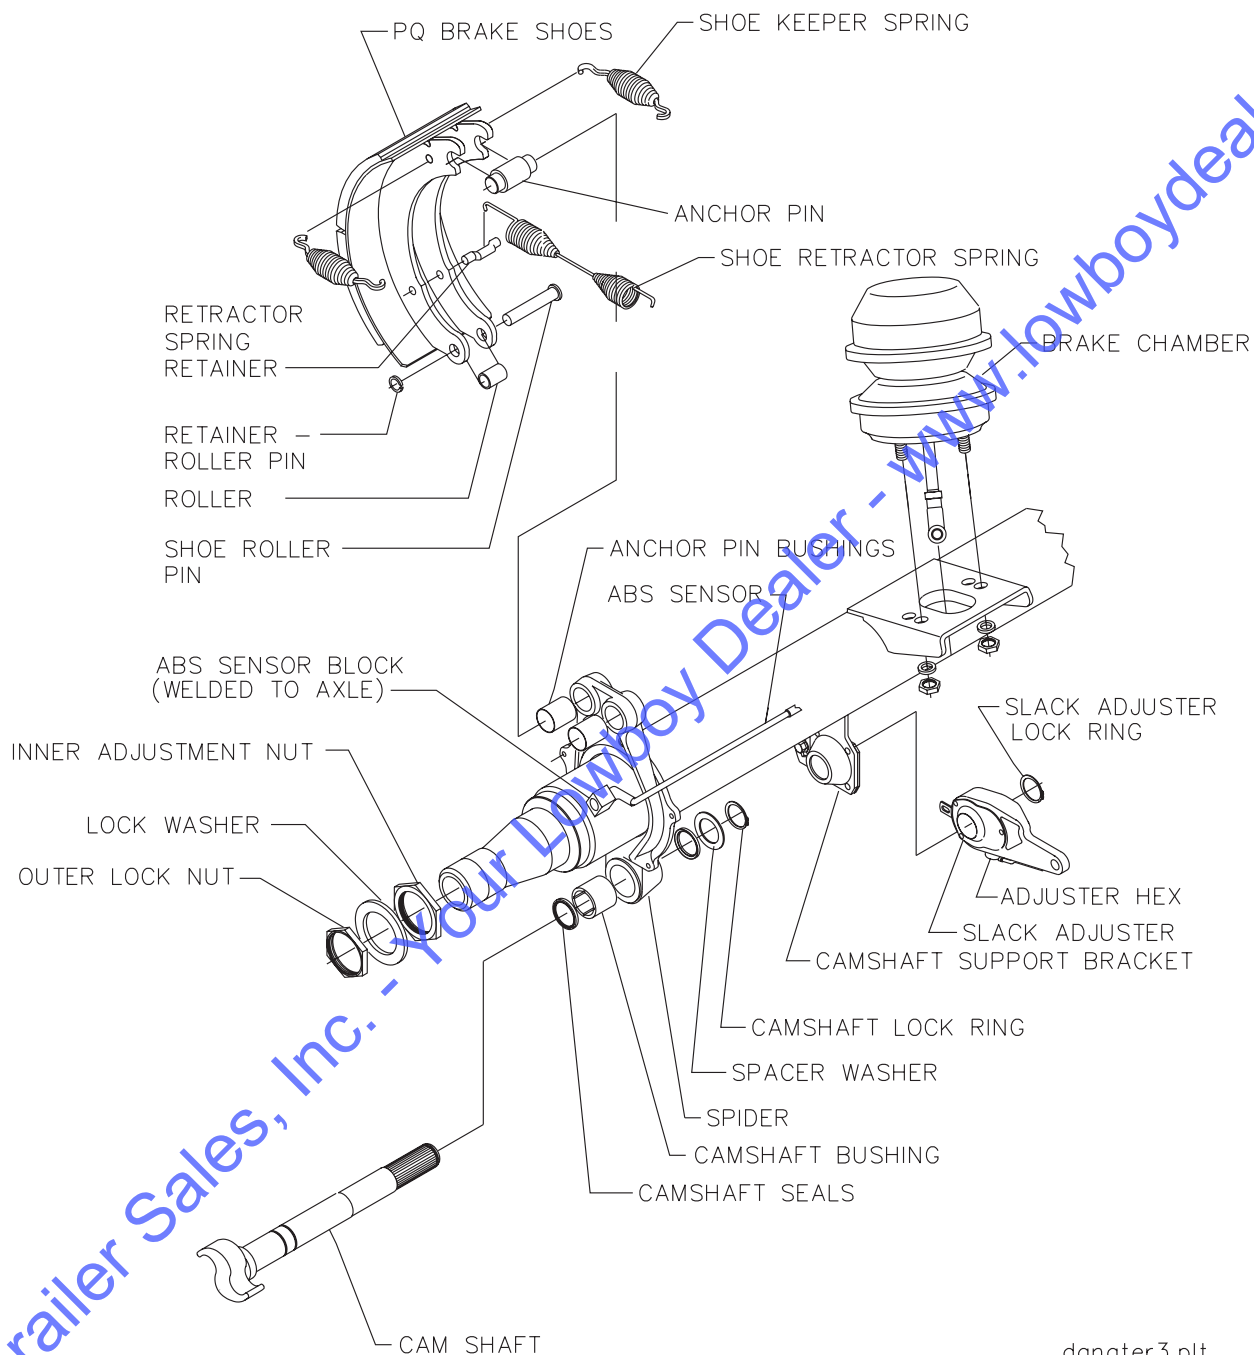

Figure 4-11 Axle and Brake Assembly
- b. Disassembly (See Figure 4-11)**